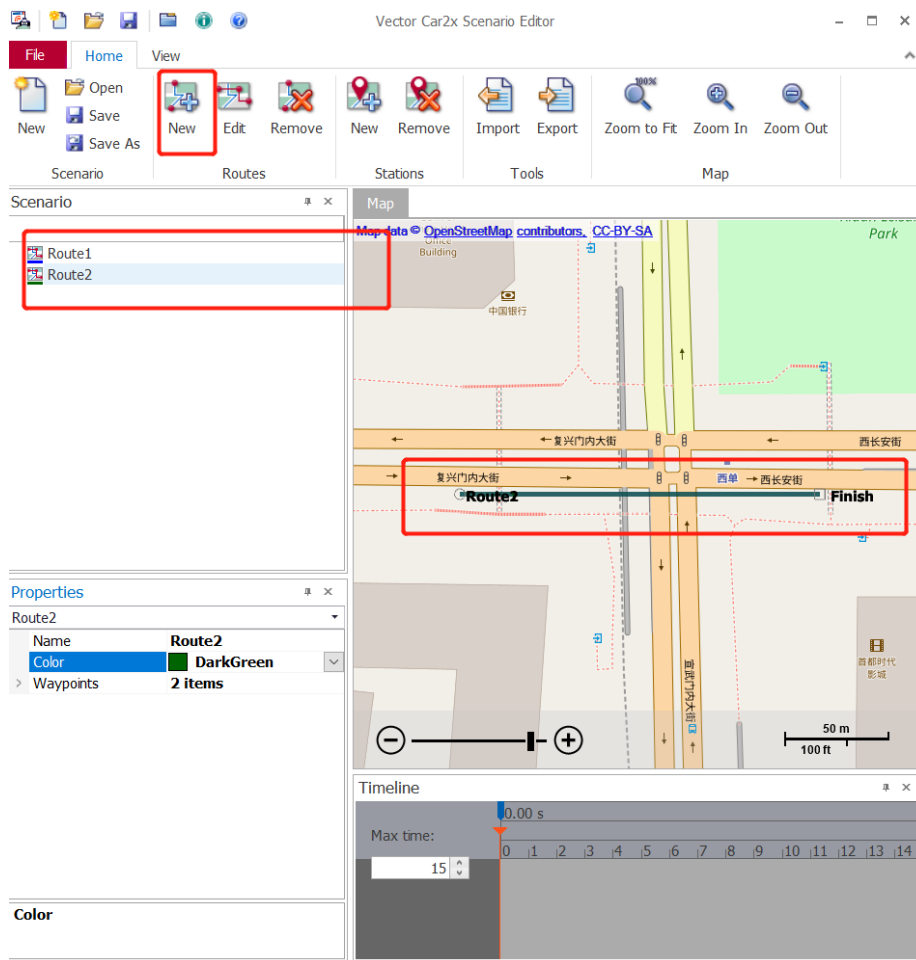

Figure 10 : Add new routes
- Scale the map and select an appropriate intersection, click New Routes, and add 2 traffic paths (Figure 10)